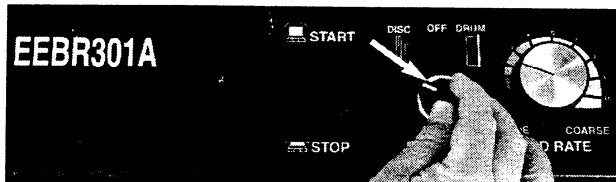

Figure 13
1. The 800 Series Function Switch selects the proper feed direction (**Figure 13**). With the switch setting on **DISC**, the machine will feed across the face of the rotors. When the switch is set on **DRUM** the slide will feed left to right for machining drums.